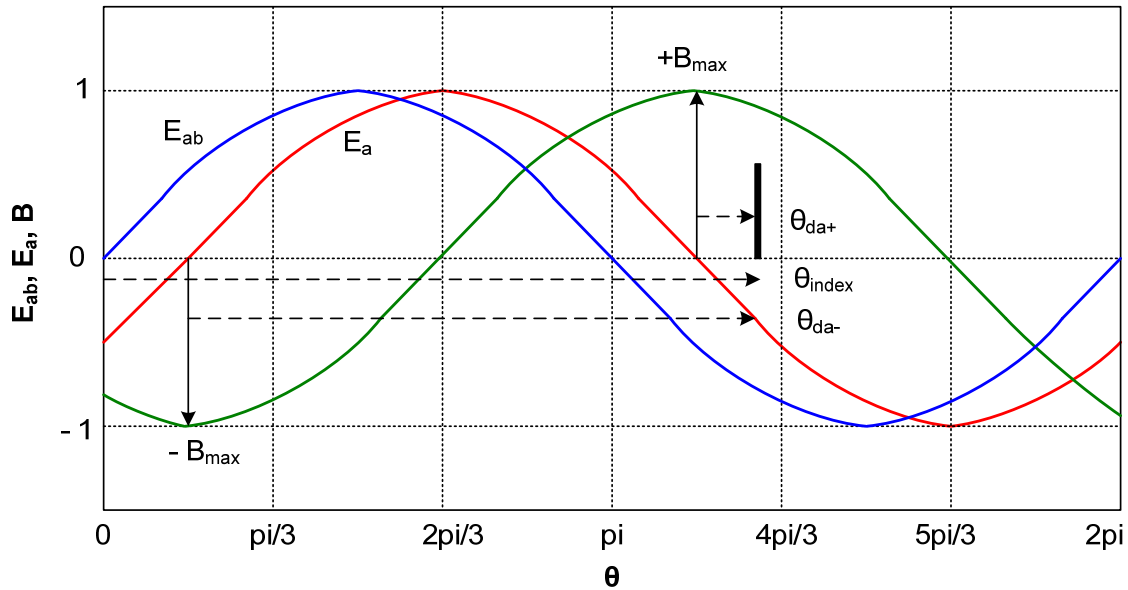

Figure 7.4: Determination of θ_{initial} when PMAC has positive speed
considered to be the reference 0 as shown in Fig. 7.4. The index pulse is observed only at θ_{index} . Hence, when calculating the value of θ_{da} , an initial offset (θ_{initial}) must be added. For a positive direction of rotation, the value of θ_{initial} is given by $\theta_{\text{da}+}$ in Fig. 7.4 (the angle between the positive peak of B and the index pulse) and for a negative direction of rotation it is given by $\theta_{\text{da}-}$ (the angle between the negative peak of B and the index pulse). The values of $\theta_{\text{da}+}$ and $\theta_{\text{da}-}$ can be calculated using (4) and (5) respectively. **NOTE:** E_a lags E_{ab} by 30° and B lags E_a by 90° .